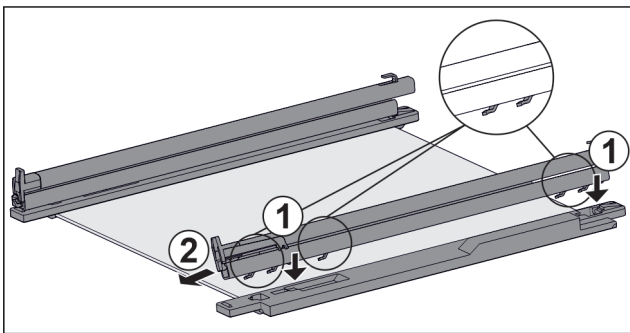

Fig. 130 Glass shelf with rails and retaining parts
- ▶ Place rail hooks onto the openings of the **left** retaining part. Fig. 130 (1)
- ▶ Push rail forwards. Fig. 130 (2)
- ▶ Place rail hooks onto the openings of the **right** retaining part. Fig. 130 (1)